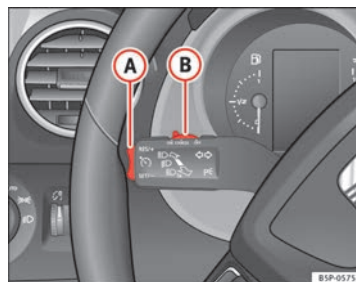

Fig. 154 Turn signal and main beam headlight lever; switch and rocker switch for the cruise control
- Press the upper part **RES/+** of the rocker switch ⇒ Fig. 154 **A** to increase the speed. The vehicle will continue to accelerate as long as you keep the rocker switch pressed. When you release the switch, the new speed is stored.
Cruise control is switched off if you reduce speed by depressing the brake pedal. You can reactivate the control by pressing once on the upper part of the rocker switch **RES/+** ⇒ Fig. 154 **(A)**.